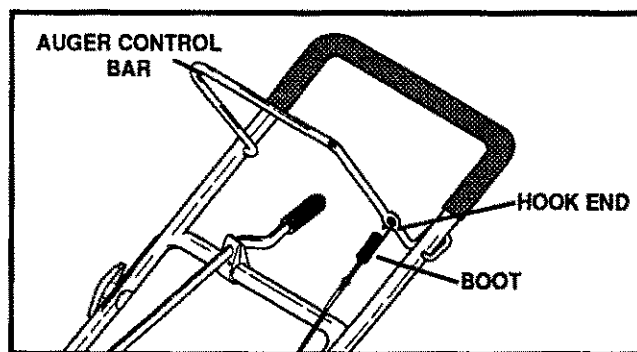

FIG. 1-SERV & ADJ
- Slide the boot on the spring toward hook end of the spring, exposing threaded rod and nut (See FIGS. 1 and 2-SERV & ADJ).
- Start the snow thrower and check that the auger does not continue to turn when the auger control bar (FIG. 1-SERV&ADJ) is released.